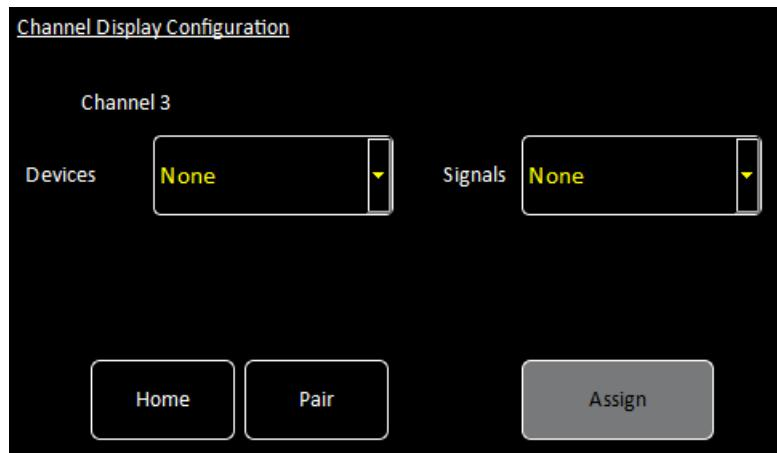

Figure 4-12 Channel Display Configuration page
- 1 Tap the panel once to display the Channel Display Configuration Page (see Figure 4-12).
- 2 Tap the panel twice to display the Channel Display Configuration Page (see Figure 4-12).
This page allows the user to configure inputs and outputs associated with a panel on the Home page. Figure 4-12 shows the page when the panel is unconfigured.